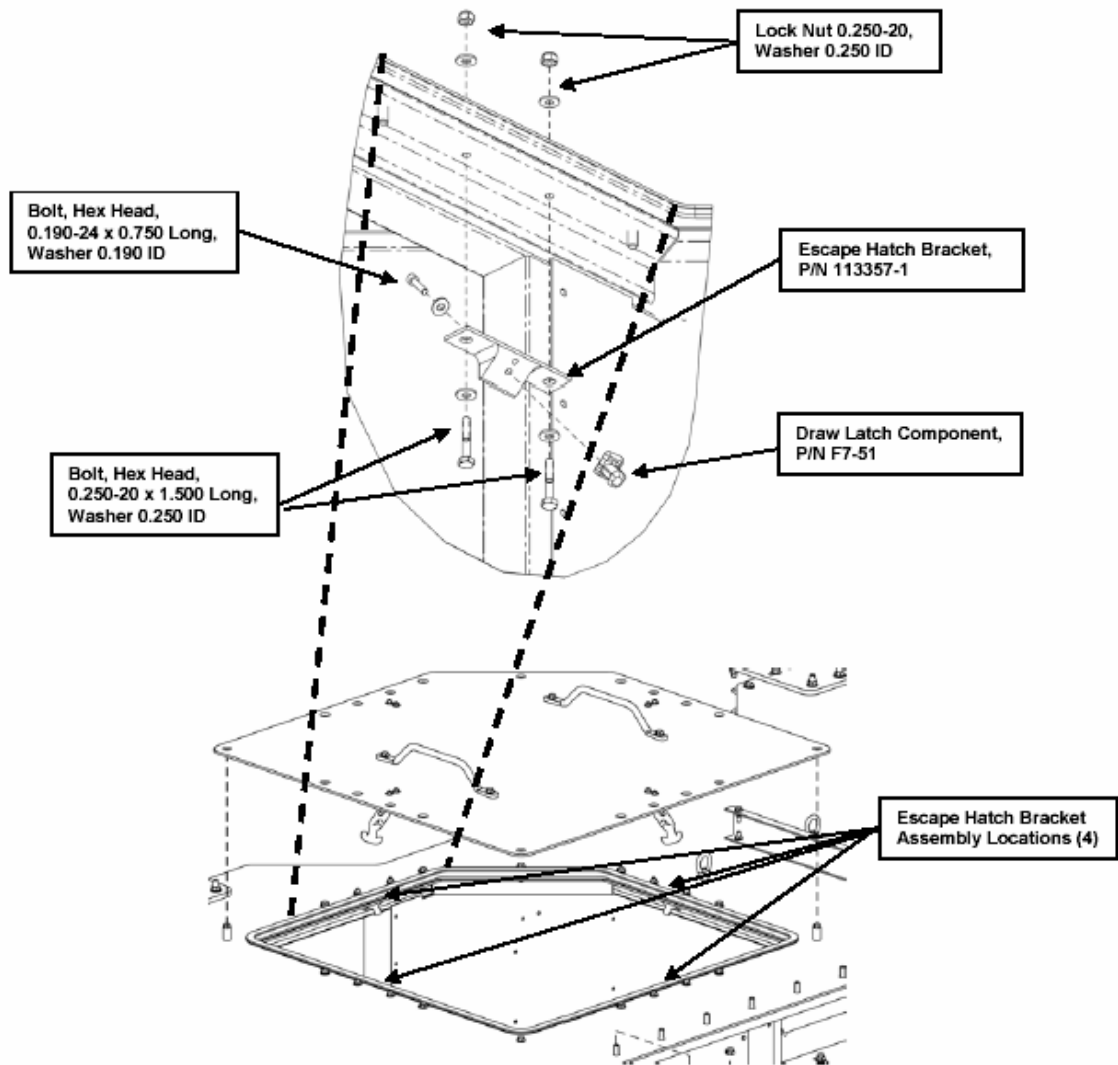

Figure 45. Installation of the Escape Hatch Brackets.
- ah. Install the four Bracket Assemblies using the hardware shown, and in the locations shown, in Figure 45. Do not fully tighten the bolts at this time.